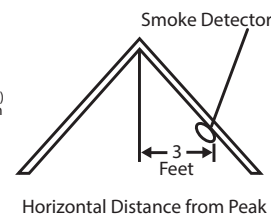

Figure 5:
- If some of your rooms have sloped, peaked, or gabled ceilings, try to mount detectors 3 feet (0.9 meter) measured horizontally from the highest point of the ceiling as shown in Figure 5